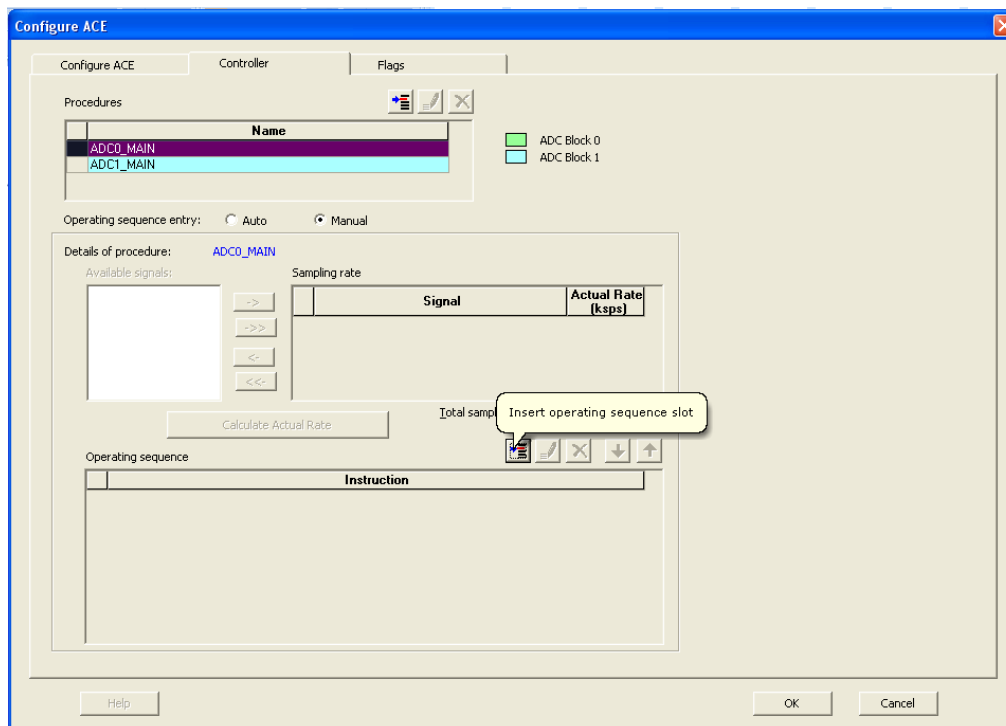

Figure 10 Insert Operating Sequence Slot
7. Click the **Insert operating sequence slot**, highlighted in Figure 10.